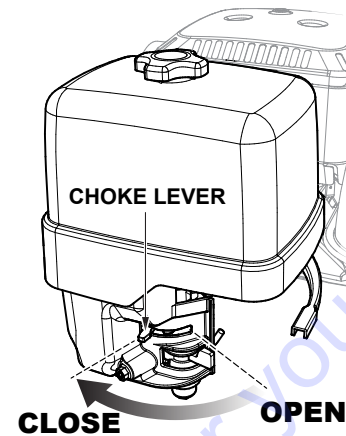

Figure 23. Choke Lever (CLOSED)
2. To start a cold engine, or to start the engine in cold weather, move the choke lever (Figure 23) to the **CLOSED** position.